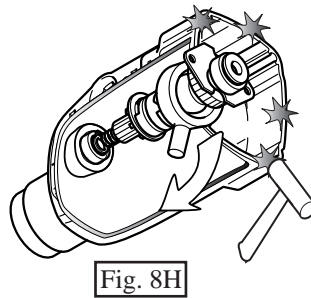

Fig. 8H
And separate inner housing together with tool holder section and swash bearing section from gear housing as illustrated in Fig. 8C. Ball bearing 606ZZ can remain in gear housing in this stage. If so, refer to Fig. 8H at page 10.
6. Reassemble swash bearing section temporarily to gear housing, and hold gear housing as illustrated in Fig. 8H. So, swash bearing section tilts in the direction of arrow. Keeping the illustrated position, disassemble swash bearing section by striking the edge of gear housing with plastic hammer. So, ball bearing 606ZZ can be removed together with swash bearing section.